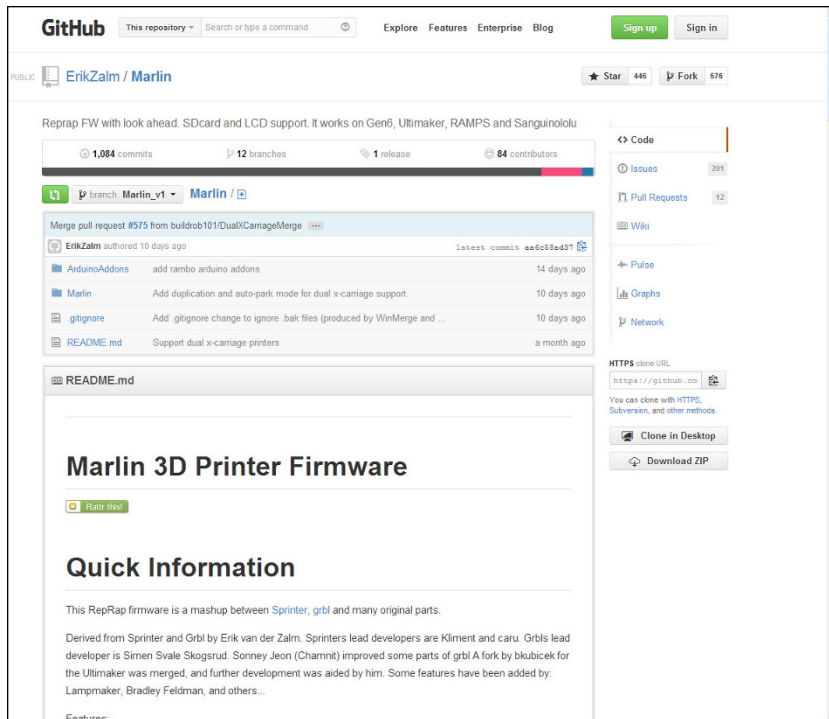

FIGURE 13-23:
2. Download the Marlin firmware at <https://github.com/MarlinFirmware/Marlin/releases> **by clicking the Download Zip button on the right side of the screen (see Figure 13-23).**